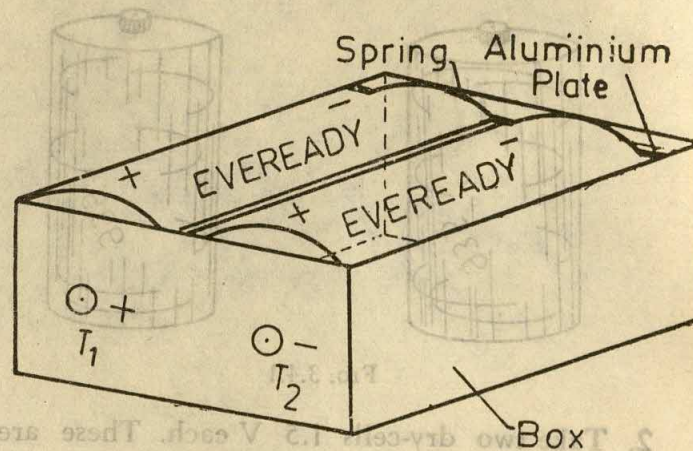

FIG. 3.4.5
5. Arrange the aluminium strip, the dry-cells with a spacer HELD IN POSITION BY MEANS OF TWO SPRINGS TOUCHING THE FLAT surface of the cells. See that the cap touches one terminal and the other terminal is connected to the spring on that side as shown in the Fig. 3.4.5